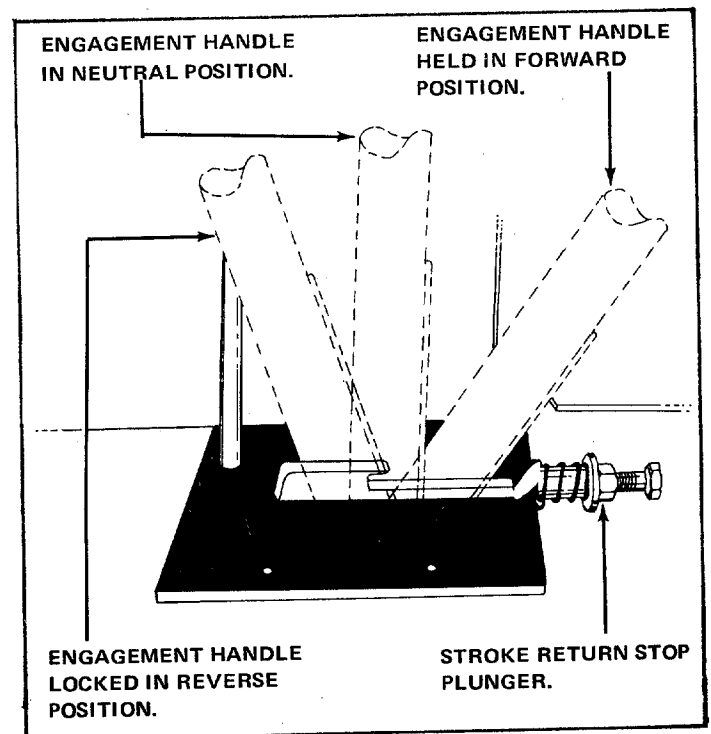

FIGURE 8
3. Open the breather valve. Valve must be open when running log splitter. Valve must be closed when transporting log splitter. See figure 8.